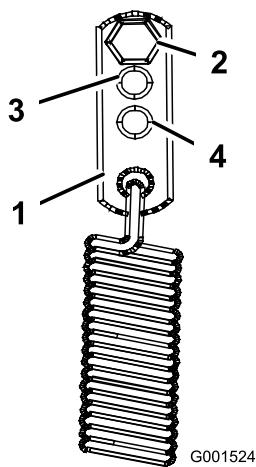

Figure 43
3. For a heavier drive setting, relocate the spring anchor links to either the medium or heavy duty positions (Figure 43). The spring anchor links are attached to the upper rear corner of the hydro drive shields on the left and right sides of the machine.
The parking brake lever is on the right side of the machine (Figure 43). If the parking brake does not hold securely, adjust it.